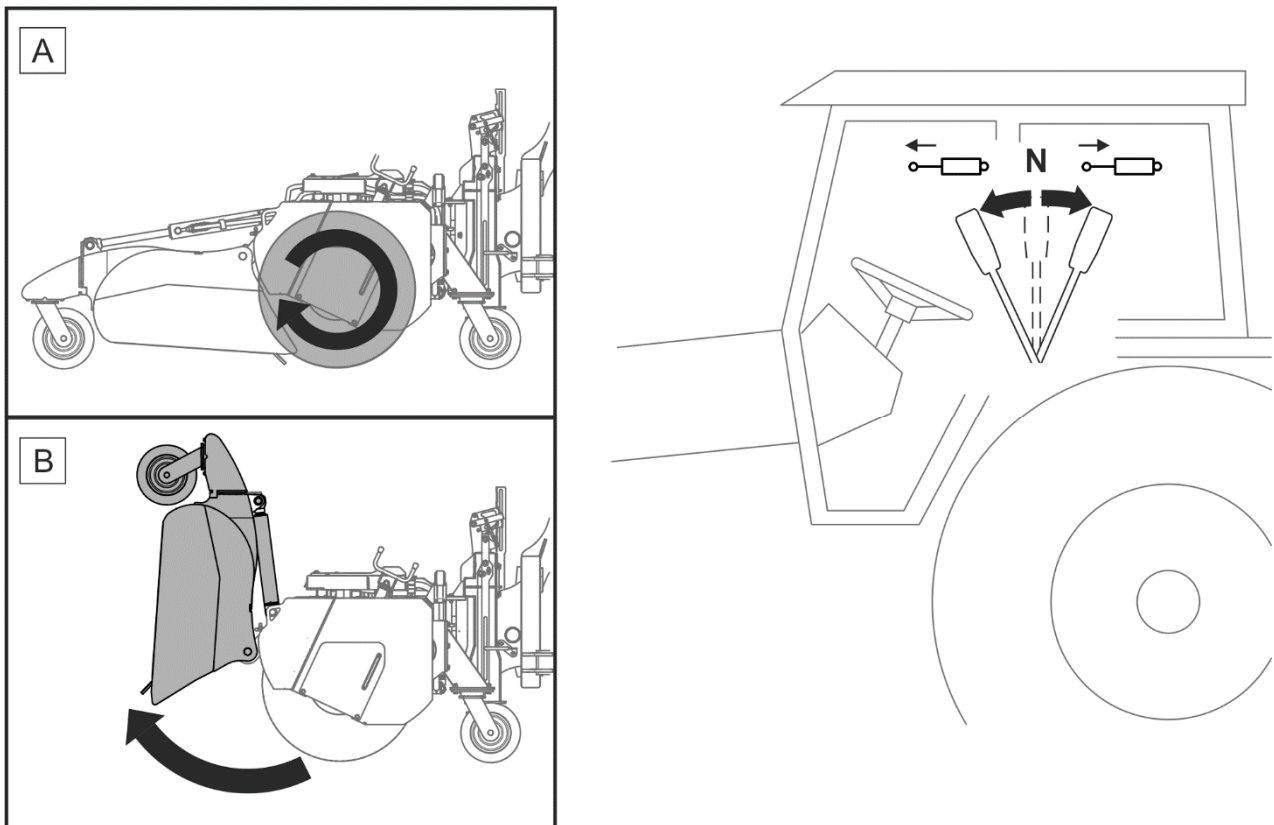

FIGURE 4.15 Emptying the waste tank
Waste tank emptying (FIGURE 4.15) is carried out from the driver's position using the hydraulic manifold lever, by reversing the oil flow direction.
- Raise the waste tank in the same manner as during emptying (FIGURE 4.15).